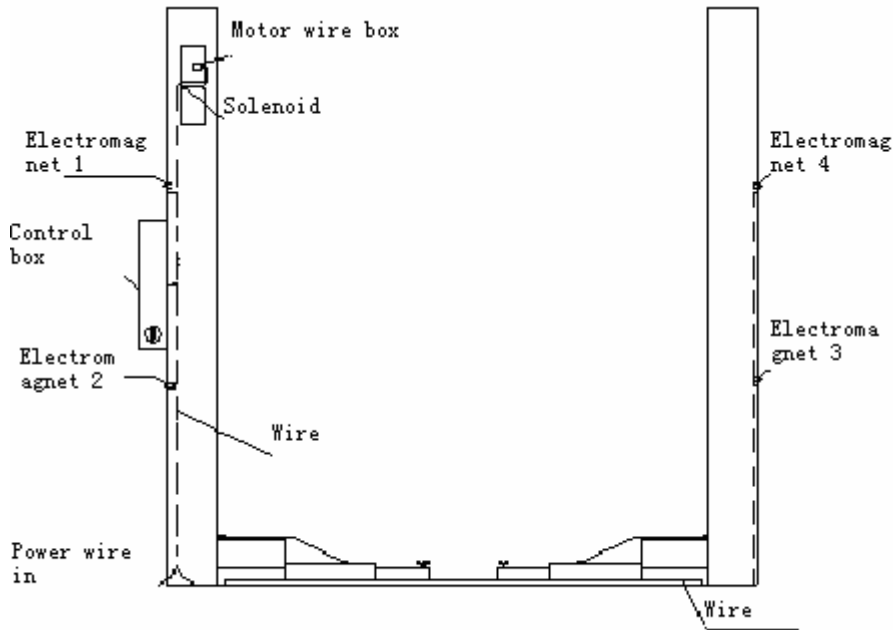

Fig 13a
- TLT235SBA、TLT235SBA (E)、TLT240SBA models are shown in Fig13a.